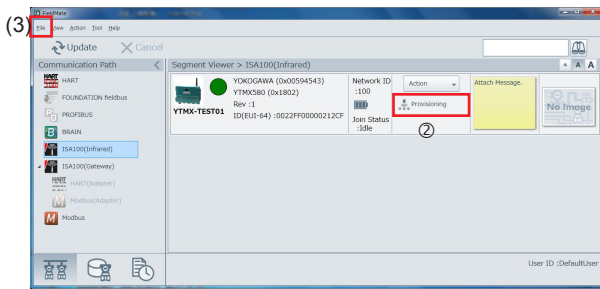
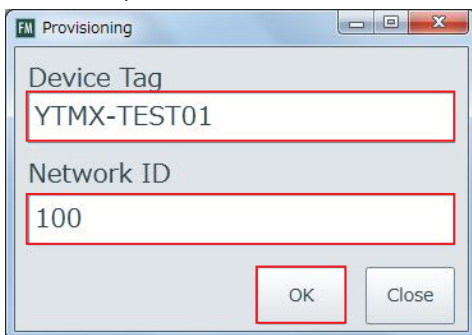

Figure 5
Figure 6
- ② As shown in figure 5, the icon of the detected YTMX appears in the Segment Viewer. Click Provisioning to open a Provisioning dialog box shown in figure 6.
- ③ Set the device tag to a name of your choice (e.g., YTMX-TEST01) and the network ID to 100 as shown in figure 6. Point the infrared adapter to the YTMX580 infrared port, and click OK.
After provisioning, save the results to YTMX-TEST01.ypif (example). (The provisioning data will be used later.) To save the results, click Export Provisioning Device Information File on the File menu (see figure 5), and specify the file name.